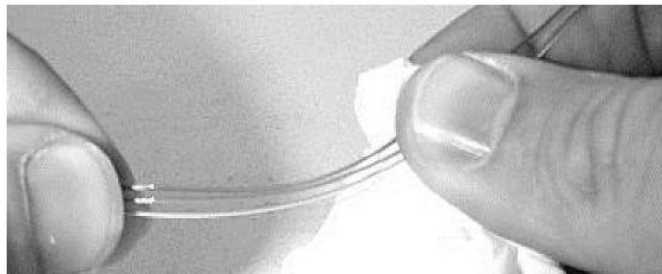

Figure 15 . Carefully clean the fibres
4.16 Carefully clean the exposed fibres using a lint-free wipe soaked with isopropyl alcohol (Figure 15).